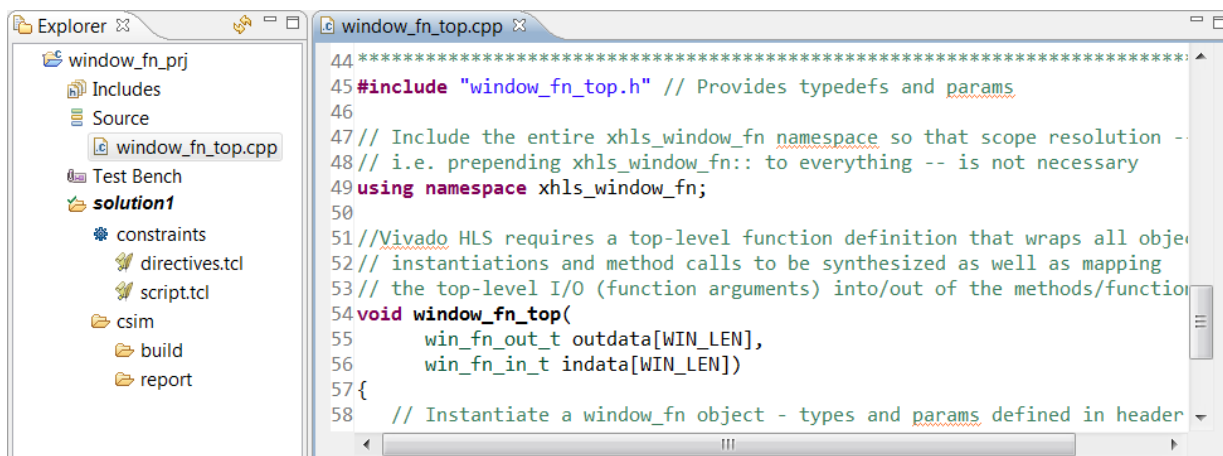

Figure 5-9: C Code for Arbitrary Precision Lab 2
- Open the **Source** folder in the Explorer pane and double-click **window_fn_top.cpp** to open the code as shown in Figure 5-9.